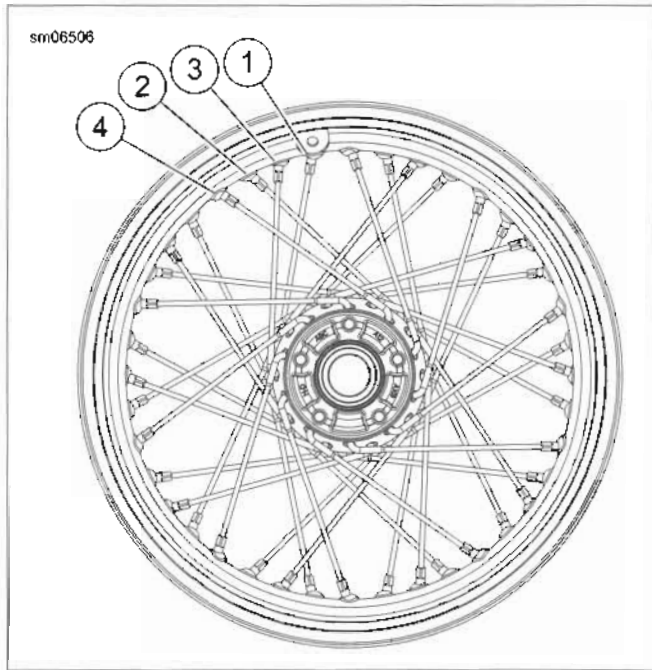

Figure 2-14. Side Valve Rim
- Rim with side valve hole:** See Figure 2-14. Start at the valve stem hole (1).